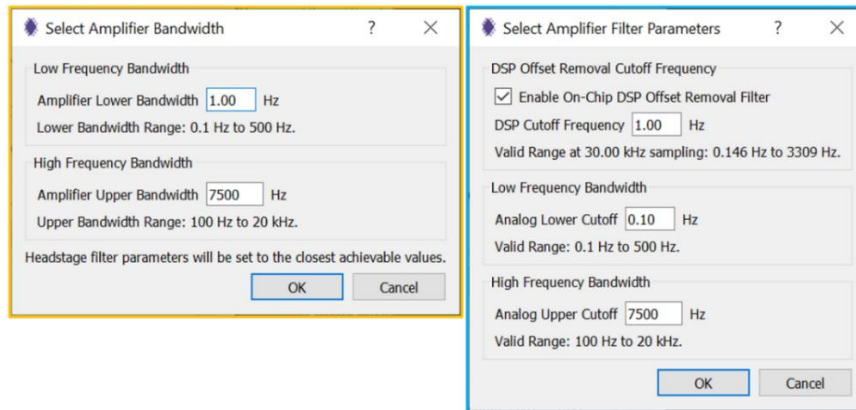
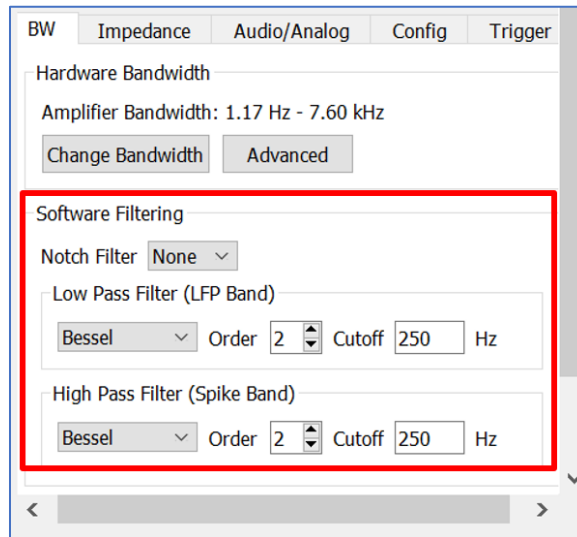

Fig. 61: Setting amplifier bandwidth and filter parameters.
Fig. 63: Bandwidth tab with optional software filtering highlighted in red.
This section allows the user to set the bandwidth of the waveforms that are displayed in the Display Columns. Under “Change Bandwidth” (orange box in **Fig. 61**) the amplifier low frequency and high frequency bandwidths can be set. Intan recommends that most users set the amplifier bandwidths using this menu. The Low Frequency Bandwidth ranges from 0.1 Hz to 500 Hz and the High Frequency Bandwidth ranges from 100Hz to 20kHz. In the example below, the Low Frequency Bandwidth is set to 1Hz and the High Frequency Bandwidth is set to 7,500Hz, which means that the waveforms with frequencies between 1Hz and 7,500 Hz are recorded.
However, under “Advanced” (blue box in **Fig. 61**) the user can set amplifier analog cutoff frequencies, as well as the on-chip DSP offset removal filter cutoff frequency, directly (blue box in **Fig. 61**). It is recommended to set the “DSP Cutoff Frequency” to the desired low-frequency cutoff, and to set “low frequency bandwidth” to between 2× and 10× lower than this frequency. If both are set to the same or similar values, the actual cutoff frequency will be higher than either frequency due to the combined effect of the two filters.
- **Low-pass filter (LFP Band):** These parameters allow low pass filtering for the LFP (“LOW”) band of the channel waveform. Only frequencies below the cut-off can pass the filter (250Hz in **Fig. 63**).
- **High-pass filter (Spike Band):** These parameters allow high pass filtering for the “SPIKE” band of the waveform. Only frequencies above the cut-off can pass the filter (250Hz in **Fig. 61**). This filter is very useful for observing neural activity immediately following a stimulating pulse because it reduces the stimulation artifact recovery time while allowing action potentials to pass. We recommend setting the frequency to 200-800 Hz (250Hz in **Fig. 63**).